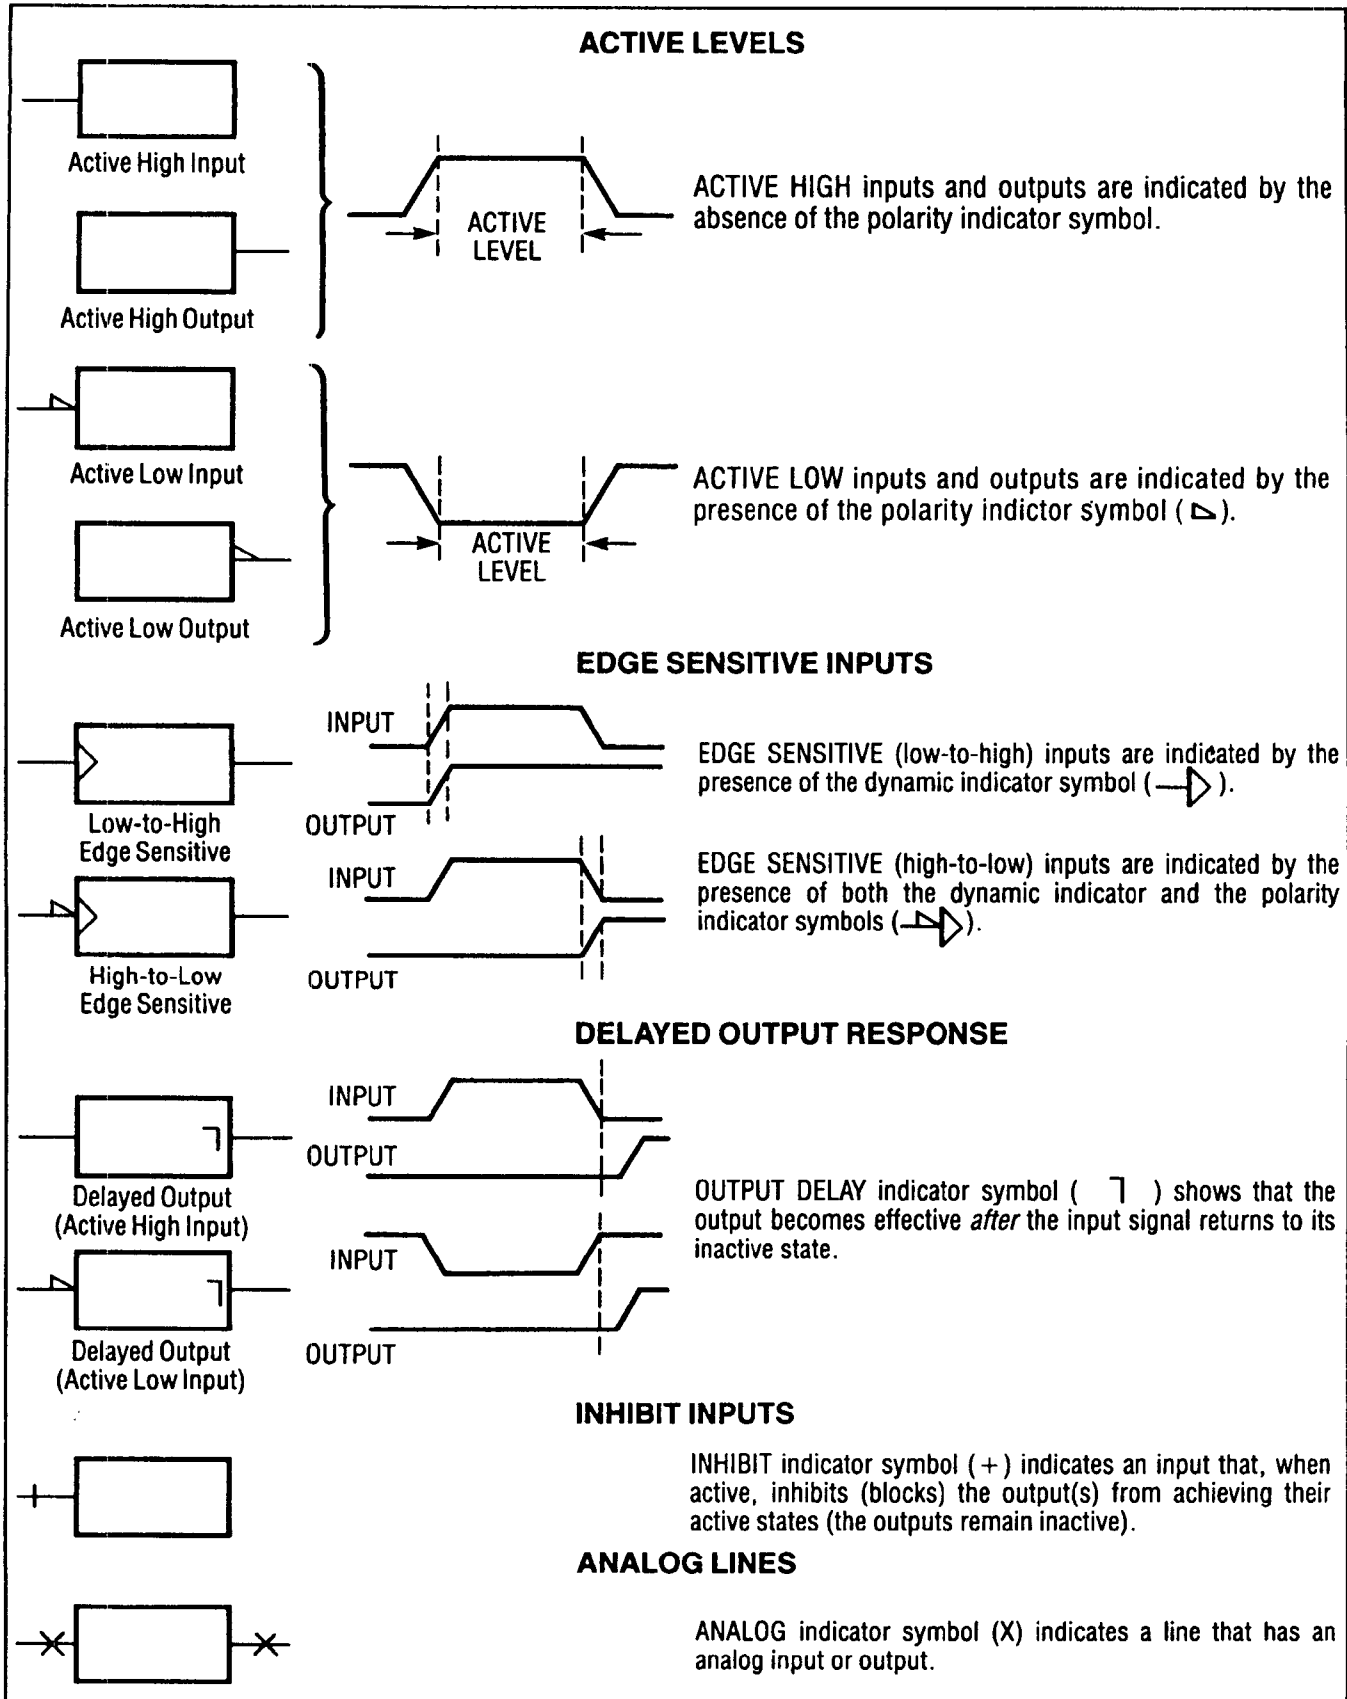

Figure 8-2. Indicator Symbols
**Indicator Symbols.** Indicator symbols identify the active state of a device's input or output, as shown in figure 8-2.